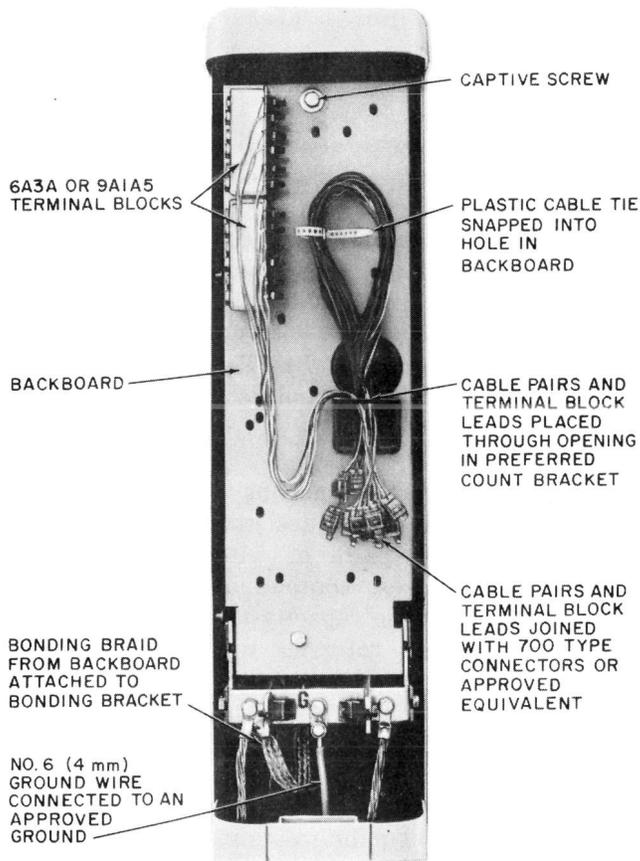

Fig. 11—6A3A or 9A1A5 Terminal Blocks Installed in PC6/48 Closure
cable closure as shown in Fig. 11. The 6A3A (MD) terminal blocks should not be used for station protectors when a PC6 or PC12 cable closure is used to feed separate buildings and is located remotely from them. Individual 123- or 128-type protectors should be provided at each building.
3.13 The 6A3A (MD) terminal block consists of a nonconductive base containing six binding posts with a 2A1A protector unit associated with each binding post. The terminal block is equipped with six color-coded 24-gauge leads (white-blue, white-orange, white-green), one to each binding post and 2A1A protector unit. Two mounting studs are provided to mount the terminal block in a cable closure and provide for ground connection.